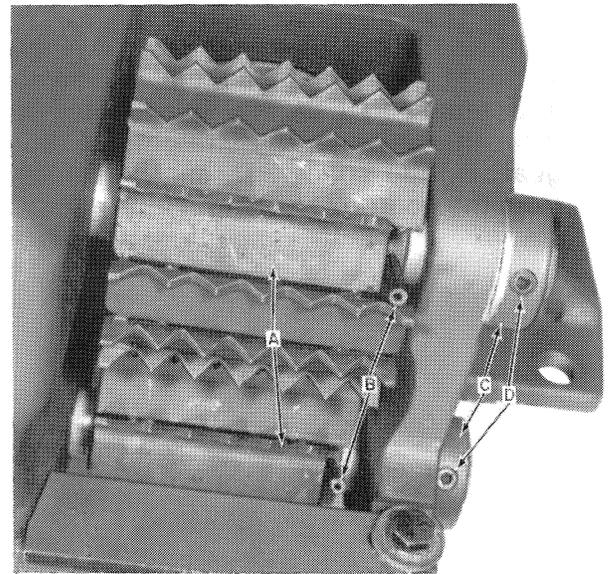

FIGURE 13
11. Remove the upper and lower feed rolls, A, Figure 13, by removing the two friction pins shown at B. At this point the shafts which support the feed rolls can be slid out of their mounts and out of the feed rolls themselves.
If necessary, remove the collars at C, Figure 13, by loosening the set screws at D. It is not necessary to remove the collars at C, to remove the feed rolls.